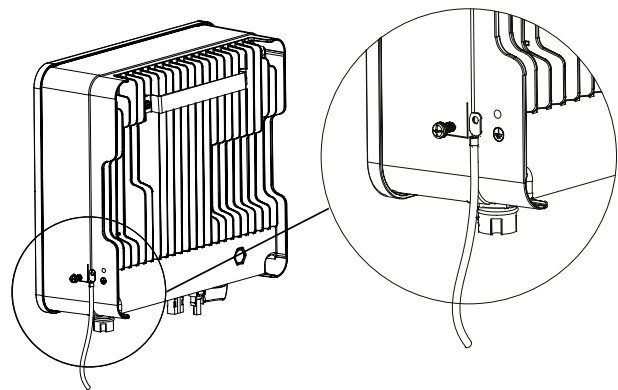

Fig. 16. Earthing terminal connection.
2. Fasten the earthing connection terminal to the PE cable with a suitable tool and lock the earthing connection terminal to the earthing connection hole on the bottom right side of the inverter as shown in Fig. 16.